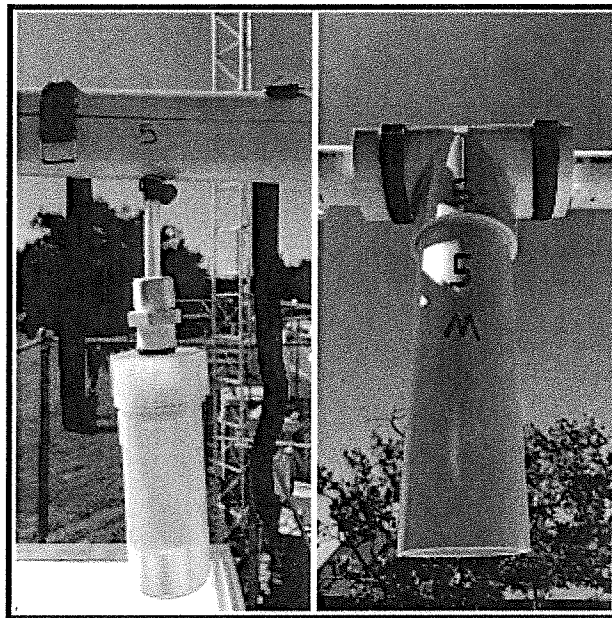

Figure 15: Solar radiation shield reattached.
- 3.2.4.6 Turn off ALICAT Flow Meter and reattach the solar radiation shield cover (Figure 15).